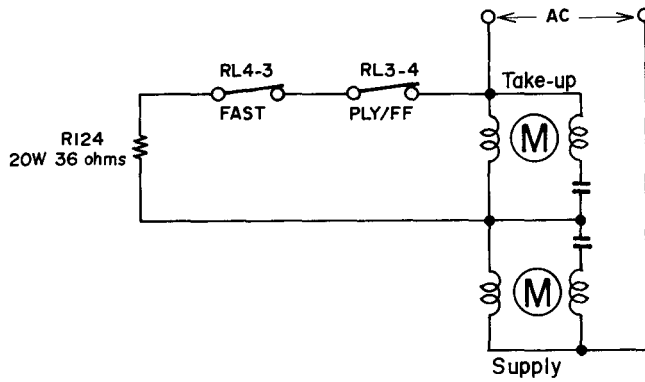

Fig. 29
Fig. 29 shows how the take up reel motor and the supply reel motor work. Since R124 36 ohms is connected in parallel to the take up reel motor, the torque of the supply reel motor is increased, and the tape is wound by the supply reel motor. If the counter indicates 0:00:50 from this position, "H" signal is issued from IC2 ⑫ (relay control).